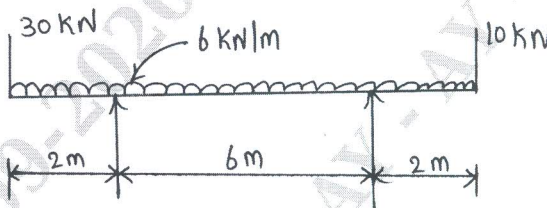

Fig.Q.5(b)
- b. Draw SFD and BMD for the beam shown in Fig.Q.5(b). (12 Marks)